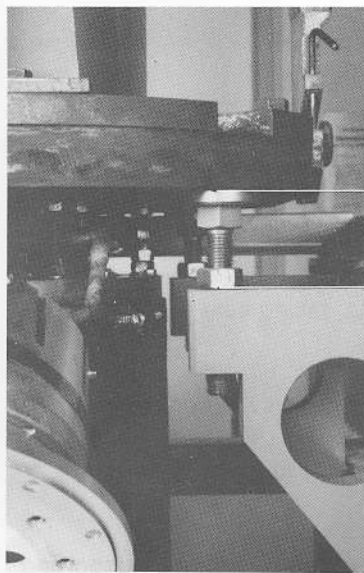

Fig. 21. Height of Support Studs
- (b) Adjust the height of the four support studs to exactly 70 mm (Fig. 21).